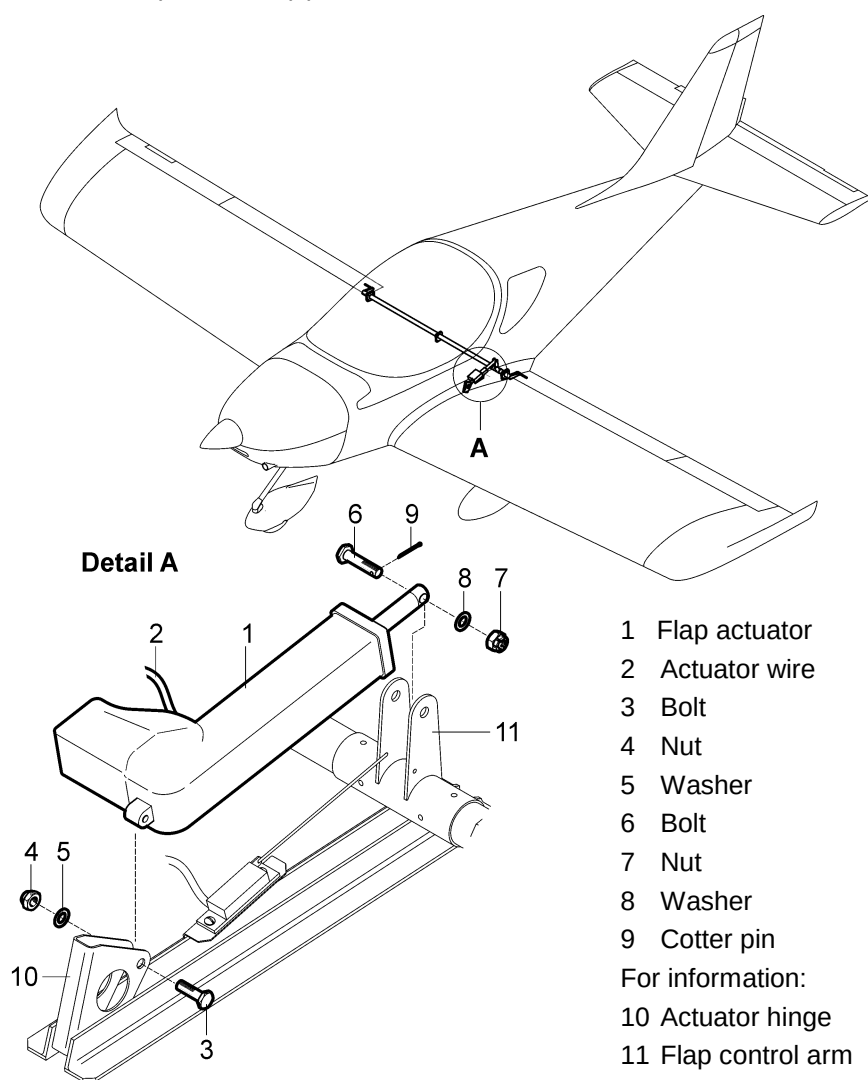

Fig. 6-8: Flap control actuator removal / installation
- Disconnect flap actuator wire (2, Fig. 6-8).
- Remove the cotter pin (9), unscrew the nut (7), remove the washer (8), bolt (6) and disconnect flap arm (11) from the flap actuator (1).
- Unscrew the nut (4), remove the washer (5), bolt (3), and disconnect actuator (1) from the actuator hinge (10).
- Remove the flap actuator (1).
- (a) Fit the flap actuator (1, Fig. 6-8) to the actuator hinge (10), insert the bolt (3) to the hole, install the washer (5), screw and tighten the nut (4).
- (b) Fit the actuator rod to the flap arm (11), insert the bolt (6) to the hole, install washer (8), screw and slightly tighten the nut (7).
- (c) Secure the nut (7) with the new cotter pin (9).
- (d) Connect the actuator wire (2) (see Wiring Manual or Chapter 16).